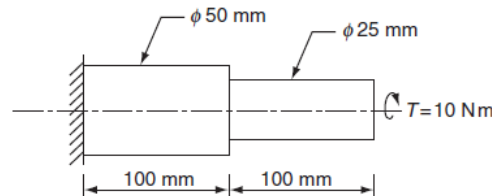

Figure 29 Question 44.
- 44.** A stepped steel shaft shown in Figure 29 is subjected to 10 N m torque. If the modulus of rigidity is 80 GPa, the strain energy in the shaft in N m: